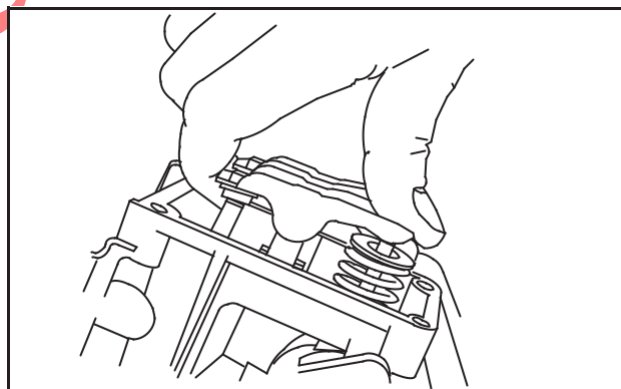

Fig. 24 – Install Push Rods
4. Compress valve springs and insert push rods into recess in rocker arm adjustment screws, Fig. 24.